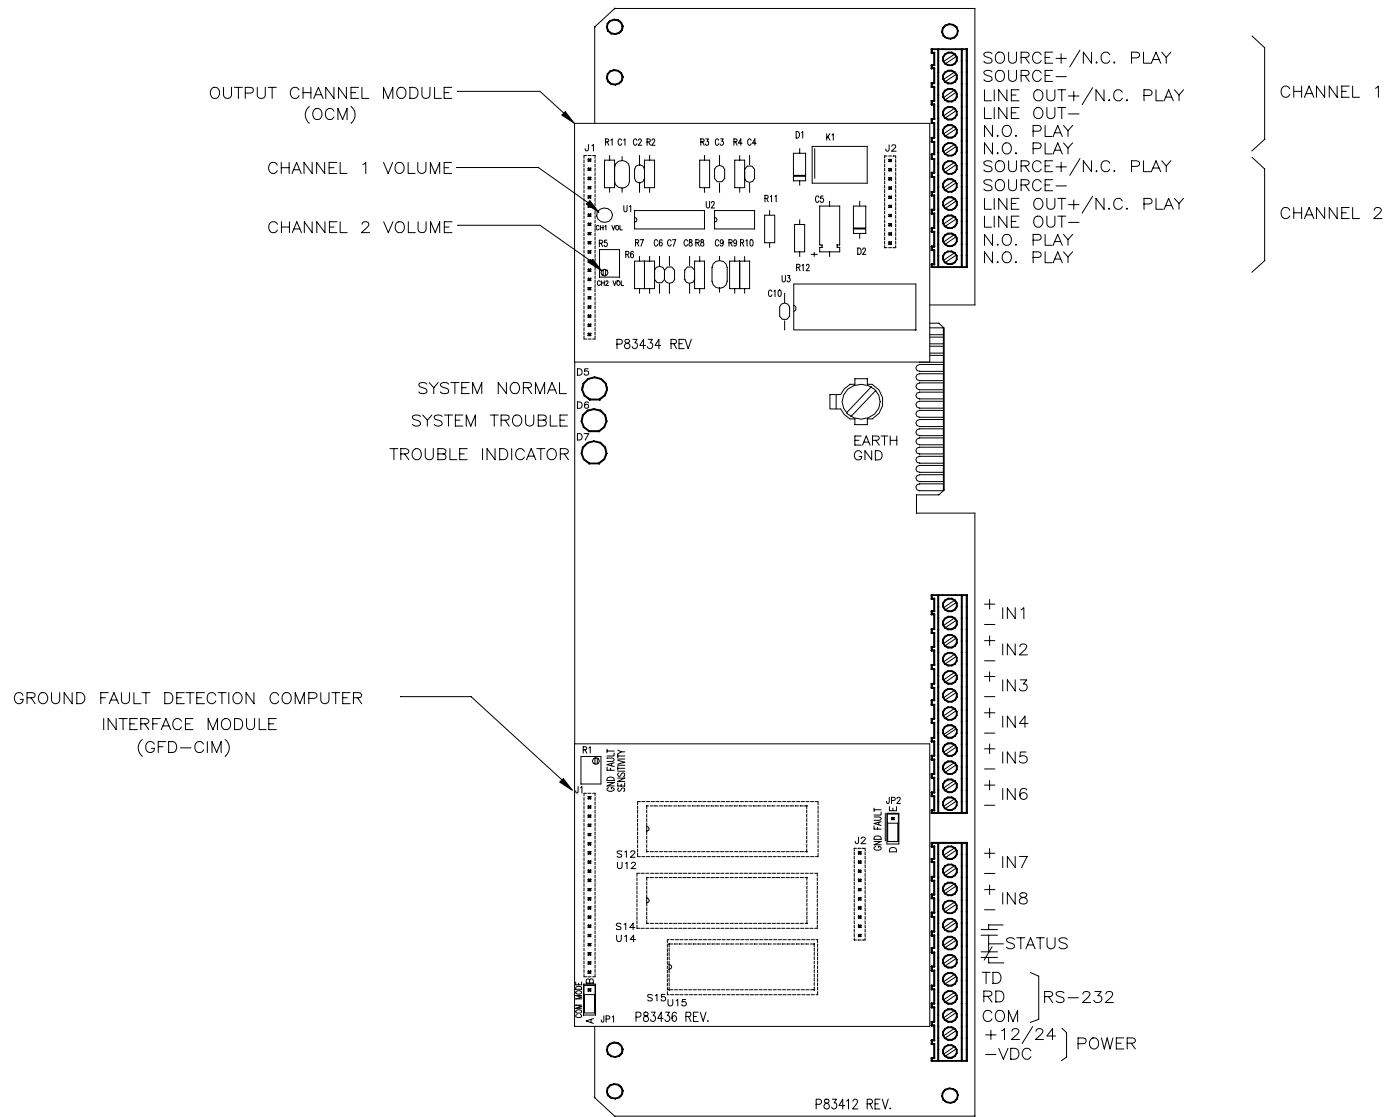

Figure 7.
The Series MDV-2 has the ability to supervise for ground fault conditions on field wiring that is not electrically isolated when the optional GFD-CIM Ground Fault Detection/Computer Interface Module is installed. The supervised wiring includes contact inputs and serial port wiring. All other wiring is electrically isolated. Ground fault supervision may be enabled and disabled by placing the "GROUND FAULT ENABLE/DISABLE" jumper (JP2) on the GFD-CIM in the desired position. (See Figure 7 for the location of the jumper JP2 on the Ground Fault Detection/Computer Interface Module.)
- 1) Connect a wire between the ground screw on the printed circuit board and the ground terminals on the enclosure. See Figure 7 for location of the ground screw (labeled "EARTH GND") on the printed circuit board and Figure 3 for the location of the ground terminals on the enclosure.
1. Disconnect the wire between the earth ground terminal on the printed circuit board (see Figure 7) and earth ground.
2. Rotate the shaft of the Ground Fault Detection Sensitivity potentiometer fully counter clockwise (See Figure 7). The potentiometer is a twelve turn device, so the shaft will probably have to be rotated a number of times. The potentiometer will make a clicking sound as it is rotated past its end point.
2. Verify that the program memory EPROM is present and inserted into socket S15 properly (see Figure 7 for S15 location).